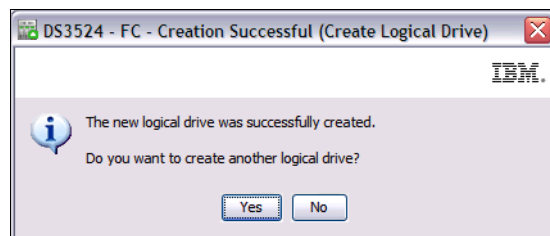

Figure 9-21 Create logical drive - Creation Successful
- Click **Finish** and the Creation Successful window opens as shown in Figure 9-21. You are prompted with option to create another logical drive. Click **No** if you are finished creating logical drives or want to continue at a later time.